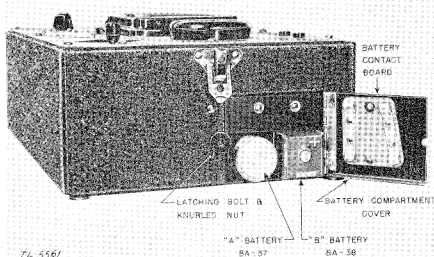

FIGURE 7.—Test unit **I-135-(*)**—showing battery compartment.
d. Compartments are provided in the test unit for A battery BA-37 and B battery BA-38 to permit these batteries to be tested under load. (See fig. 7.) Also connections are provided for the use of external batteries. A heavy-duty 1.5-volt battery (battery BA-23 or battery BA-35) and a heavy-duty 90-volt battery (two batteries BA-26 or two batteries BA-36) will be satisfactory for all alinement and testing purposes. Battery BA-37 and battery BA-38, part of radio receiver and transmitter BC-611-(*), also can be used for this purpose, but are not recommended because of their short life under these conditions.
(1) OFF, which disconnects external and internal batteries of test unit I-135-(*) from both the test unit and the radio set chassis. The radio set and oscillator are ON in all other positions of the MASTER SWITCH.
(2) BA-37, 0-3V. D.C., which indicates on the meter the voltage of external A battery or battery BA-37 when the radio set is in either the receiver or transmit position.
(3) BA-37, 0-600 MA. D.C., which indicates on the meter the current drain of external A battery or battery BA-37 when the radio set is in either the receive or transmit position.
(4) BA-38, 0-150 V. D.C., which indicates on the meter the voltage of external B battery or battery BA-38 when the radio set is in either the receive or transmit position.
(5) BA-38, 0-60 MA. D.C., which indicates on the meter the current drain of external B battery or battery BA-38 when the radio set is in either the receive or transmit position.
(6) PWR. AMP., 0-15 MA. D.C., which indicates on the meter the r-f power amplifier plate current when the radio set is in transmit position.
(7) OUTPUT 0-60 V. A.C., which indicates on the meter the audio output voltage of the radio receiver; the meter is connected across the earphone in the test unit.
(8) CRYSTAL ACTIVITY, 0-1.5 MA. D.C., which indicates on the meter the grid current of the crystal oscillator to show condition of crystal. The MODULATE TESTER switch must be OFF when crystal activity is being checked.
(9) The switch marked MODULATE TESTER is used to modulate the r-f oscillator with a 1,000-cycles-per-second tone when the test unit is to be used for receiver alinement purposes.
63. Testing batteries BA-37 and BA-38.—*a.* Use test equipment IE-17-(*) for this test, but be sure that the external heavy-duty batteries are *disconnected*. The radio set chassis *with both crystals in place* is mounted in the test case, connected to the test unit, and then placed in the test stand with antenna rod extended. The press-to-talk switch must be *in transmit position*. The MASTER SWITCH of the test unit should be OFF. Place radio set batteries BA-37 and BA-38 in the compartment of the test unit. Close and secure the compartment cover. (See fig. 7.) MODULATE TESTER switch must be OFF.